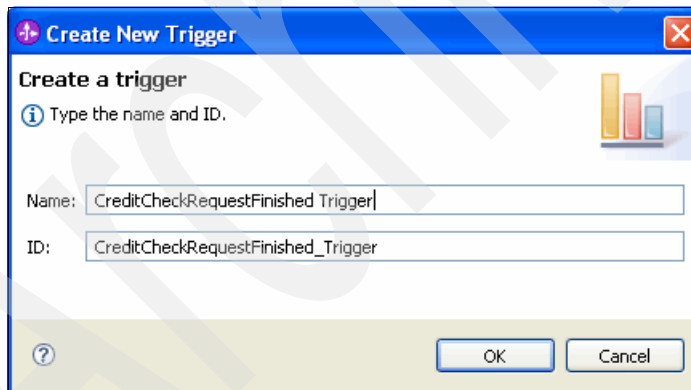

Figure 10-46 Create New Trigger window
2. In the Create New Trigger window (Figure 10-46), for Name, type CreditCheckRequestFinished Trigger. Click **OK**.